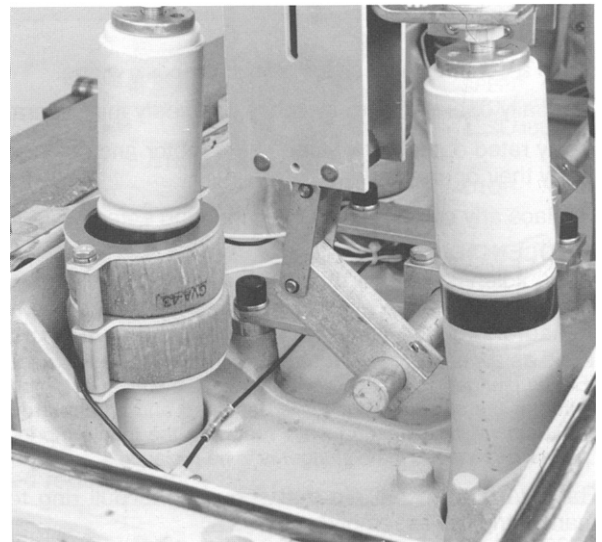

Figure 20.
4. Remove C-ring and pin securing contact rod to shaft lever (Figure 20).
5. Attach new contact rod to shaft lever with pin and C-ring removed (Figure 20).